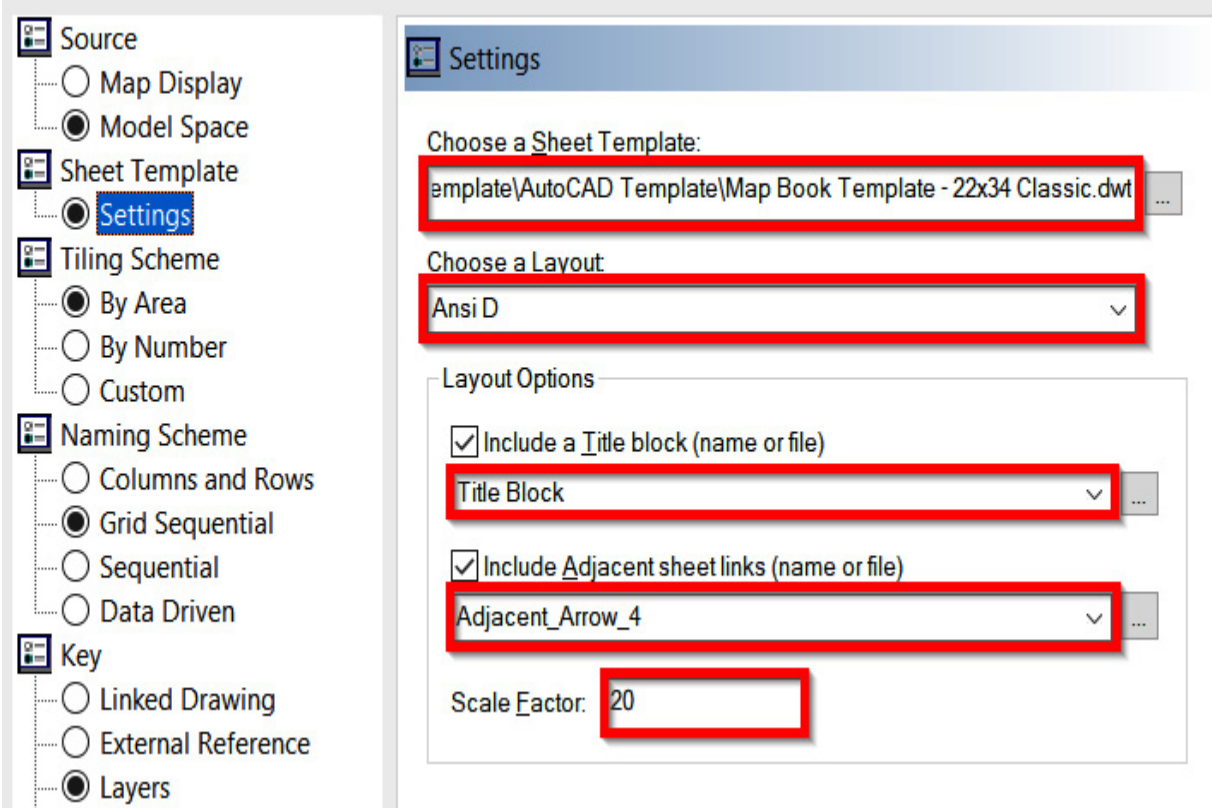

Figure 14.7 – Map Book > Sheet Template > Settings Criteria
- **Sheet Template: Settings** (as shown in *Figure 14.7*):